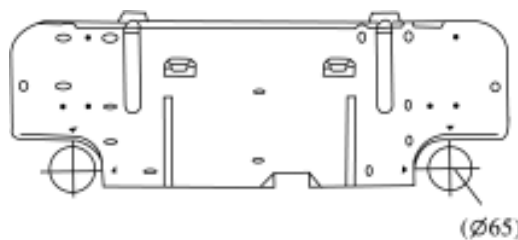

Figure 1
1. Make the piping hole ($\phi 65$) in the wall at a slight downward slant to the outdoor side. The center of the hole should be determined refer to Figure 1.